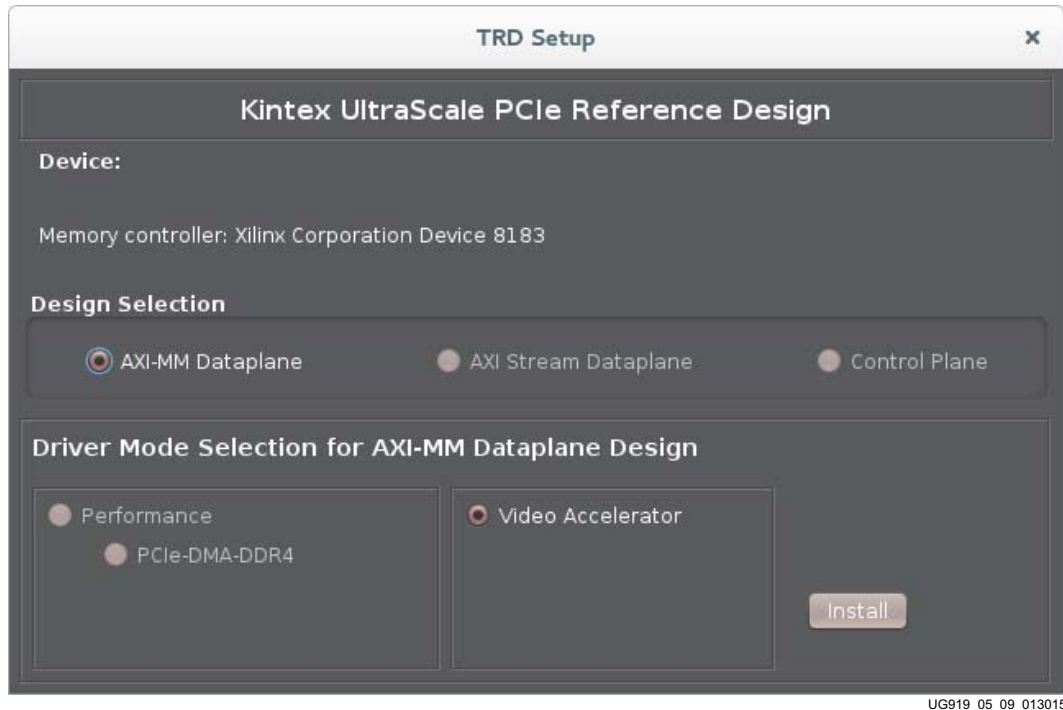

Figure 5-9: Installer Screen for Video Accelerator Design
5. Performance mode is selected under the **AXI-MM Dataplane** Design Selection by default. Change the Driver Mode Selection for AXI-MM Dataplane Design to **Video Accelerator** mode, as shown in Figure 5-9.